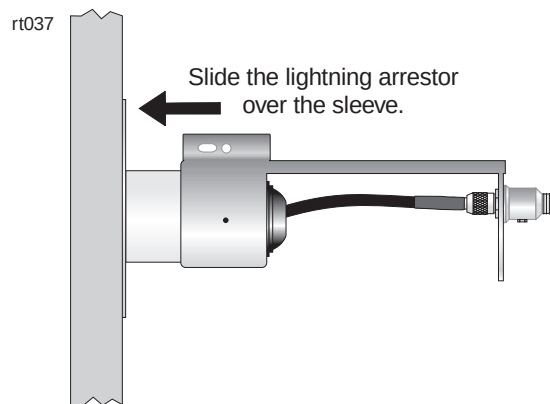

Figure 4-9 Attaching the lightning arrestor to the sleeve
1. Slide the lightning arrestor over the sleeve, as shown in figure 4-9.